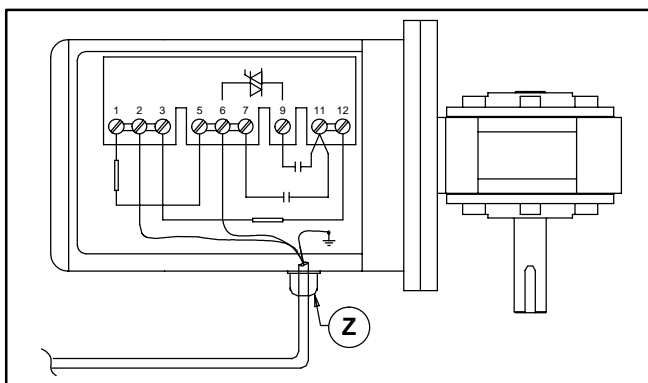

Figure 16
- b. Record wire colors on terminals 2, 6 and ground ( $\perp$ ) (Figure 16). Loosen terminals 2, 6 and ground and remove wires.
- c. Loosen cord grip (Z of Figure 16) and remove cord.